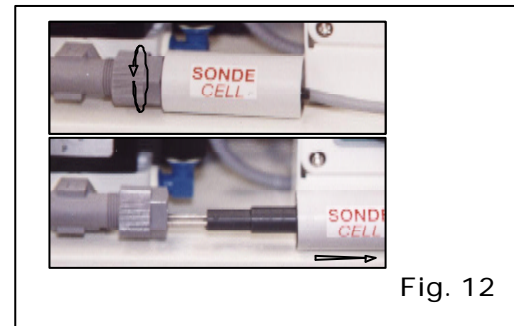

Fig. 12
86. CLEANING THE SALINITY CELL (Fig. 12)